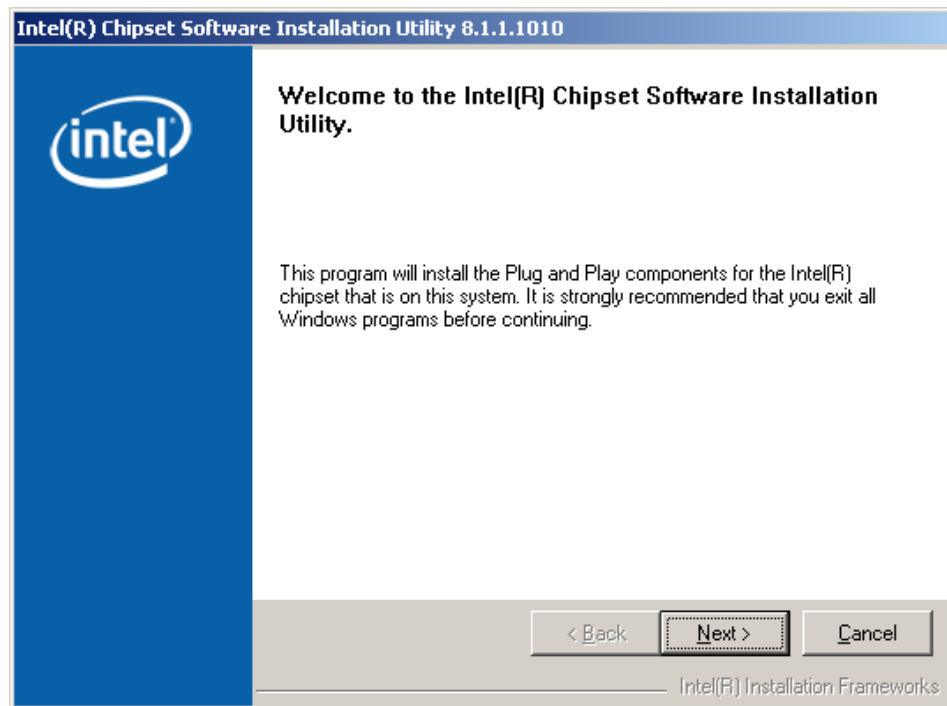

Figure 7-4: Chipset Driver Installation Welcome Screen
Step 4: The welcome screen in **Figure 7-4** appears.
- Step 5:** Click **NEXT** in **Figure 7-4** to continue the installation process.